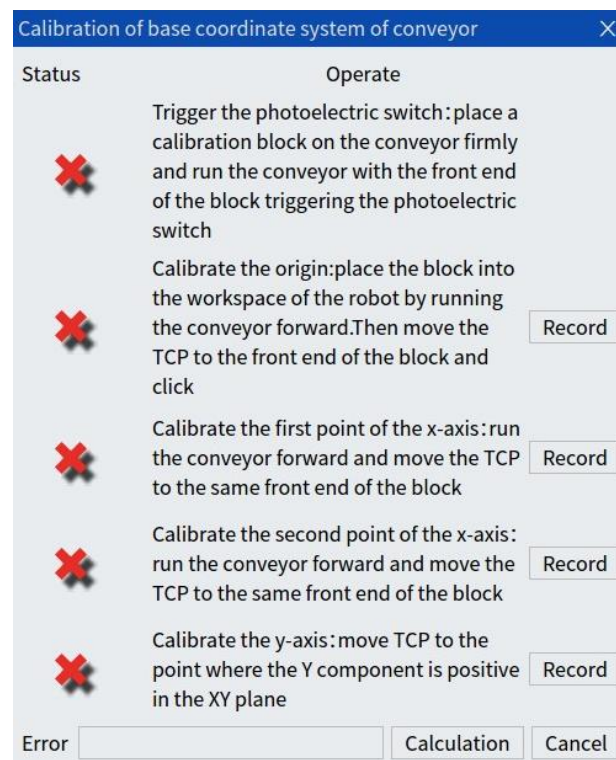

Figure 5-25 Visual coordinate system calibration interface
Step14. Enter the [Cali] interface of the [Conveyor setting] interface again, and click the <Calibrate> button in the [Visual calibration] interface. As shown in Figure 5-25.